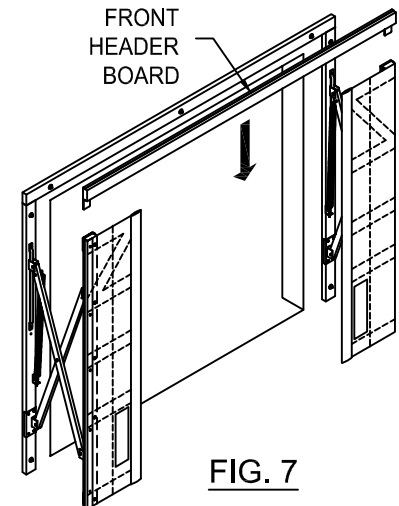

FIG. 7
- * Connect front header cross-member to left and right verticals by sliding tongues at each end of front header cross-member into slots at top end of verticals (FIG. 7).